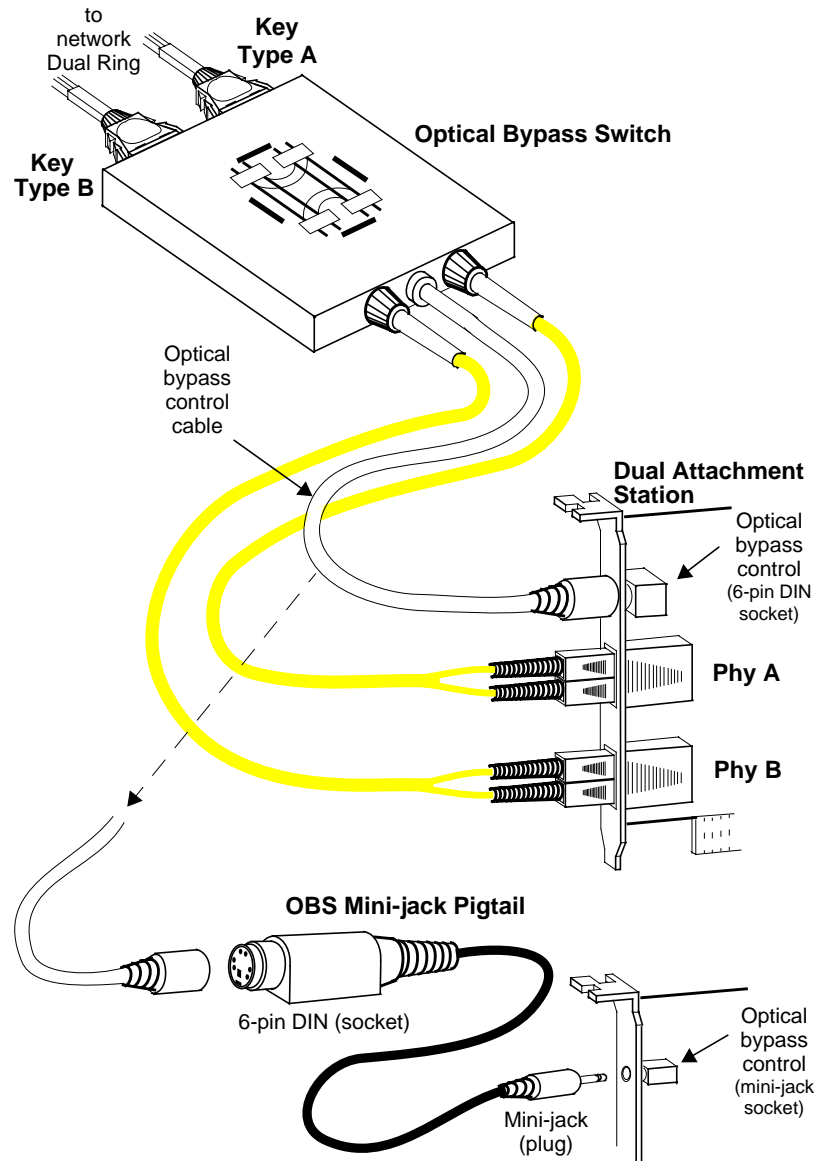
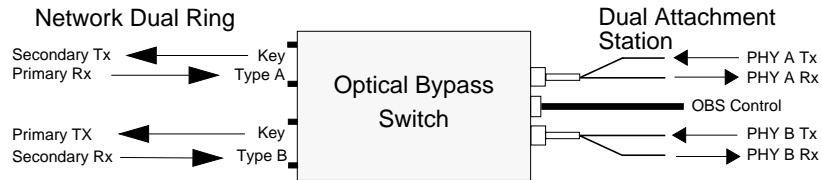

Figure 2-12. Typical Optical Bypass Connection
Figure 2-13. Optical Bypass Switch Tx/Rx Configuration
During normal operation of a dual ring with no faults, each station receives and transmits all traffic on the primary ring, while the secondary ring is idle. If a station is turned off or disconnected from the ring, neighboring stations detect this as a fault or discontinuity, and wrap the traffic onto the secondary ring, thus keeping remaining stations in communication. However, if a second fault occurs during this time, the ring could become segmented, separating groups of stations into independent rings. An OBS can be used to bypass a station that is turned off or disconnected, protecting against multiple faults on a dual ring. Figure 2-12 shows a typical connection of an OBS between a dual-attachment station and the dual ring. The installation procedures in this section include such a connection.
The example in Figure 2-12 uses MIC connectors with type A and type B keying to illustrate the connection of an OBS to the FDDI network. Our example also shows SC duplex cabling (for the network) from the OBS to the dual-attachment adapter. Your cabling requirements will depend upon the type of OBS and 4811 that you are installing. For Tx/Rx assignments of the OBS, see Figure 2-13.
1. Connect the cables from the OBS to the appropriate **Phy A** and **Phy B** ports on the 4811 as shown in Figure 2-12, Figure 2-13, and one of the following:
The dual-attachment 4811 with MIC connectors has a mini-jack socket for the optical bypass instead of the larger 6-pin DIN (See Figure 2-12). Use the jumper cable included with your 4811 to connect the end of the control cable (from the OBS) to the mini-jack socket on the adapter's faceplate.
Our example shown in Figure 2-12 uses MICs to connect the cable from the B port of one neighbor to the **Key Type A** port on the OBS. The cable from port A of the other neighbor is connected to the Key Type B port of the OBS. For Tx/Rx configurations of the connections, see Figure 2-13.